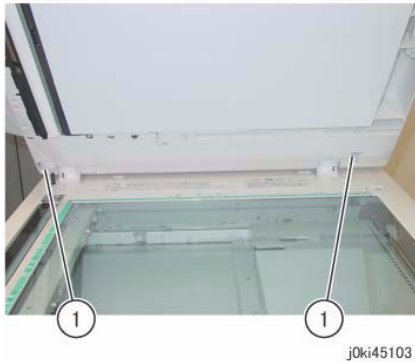

Figure 3 Releasing Hooks
5. Release the lock tabs of the DADF Rear Cover. (Figure 3)